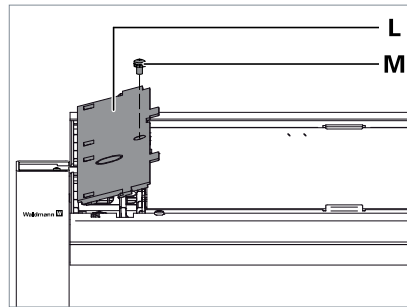

Fig. 6: Mounting the cover.
- ▶ Insert the cover **L** with the hooks on the bottom side of the cover into the eyelets on the luminaire head and press the cover firmly, see Fig. 6.